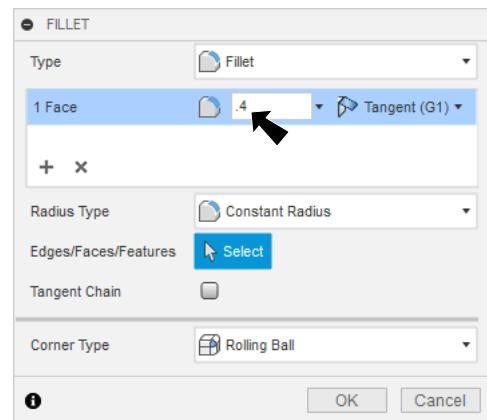

Fig. 12
Step 1. On the Solid tab **SOLID** click Fillet  (F) in the Modify area of toolbar.
Step 2. In the Fillet panel set, Fig. 12